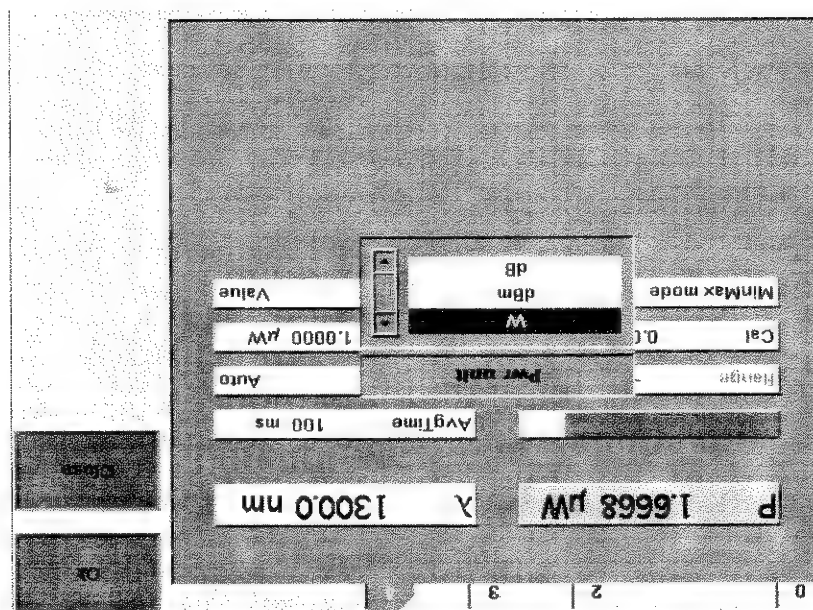

Figure 39 Selecting the Power Unit
- 1 Move to the [P] parameter and press the [Power Unit] softkey. You will see the menu in Figure 39.